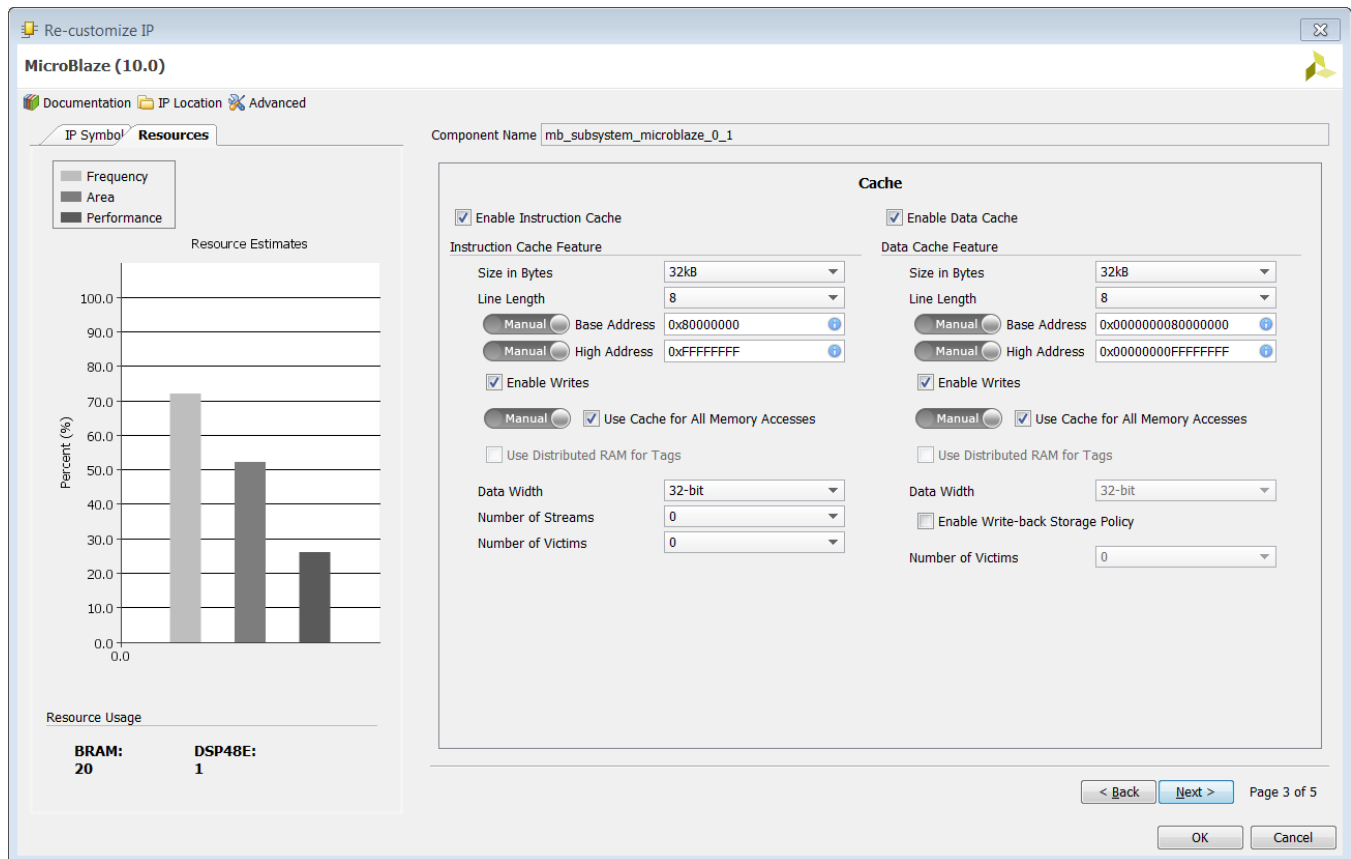

Figure 104: Setting Cache option for MicroBlaze
2. Double click on the MicroBlaze in the block design to re-configure it. Go to the Cache page (page 3) of the **Re-customize IP** dialog box, as shown in Figure 104. On this page, for both the **Instruction Cache** and **Data Cache**: